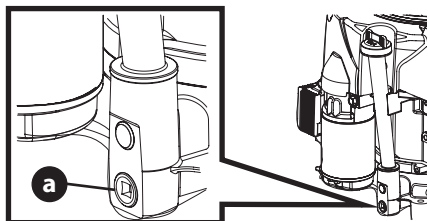

Figure 6
2. Remove drain plug (a) and allow oil to drain into a suitable container (Figure 6 on page 10).